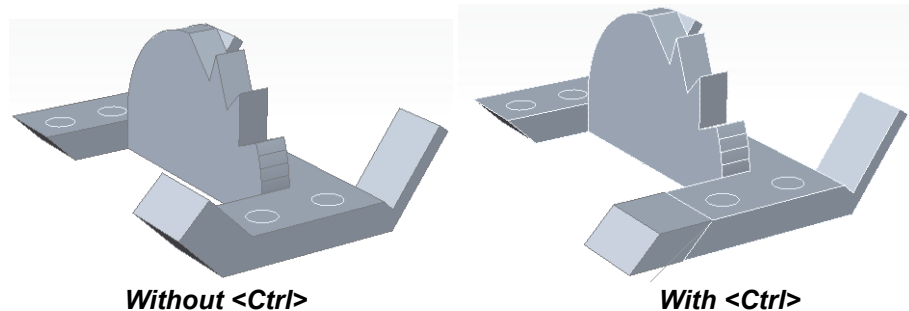

Figure 4–5
- You can extrude a planer face and have it follow the angle of the adjacent sides, as shown in Figure 4–5. To do so, hold <Ctrl> when selecting the planer face.